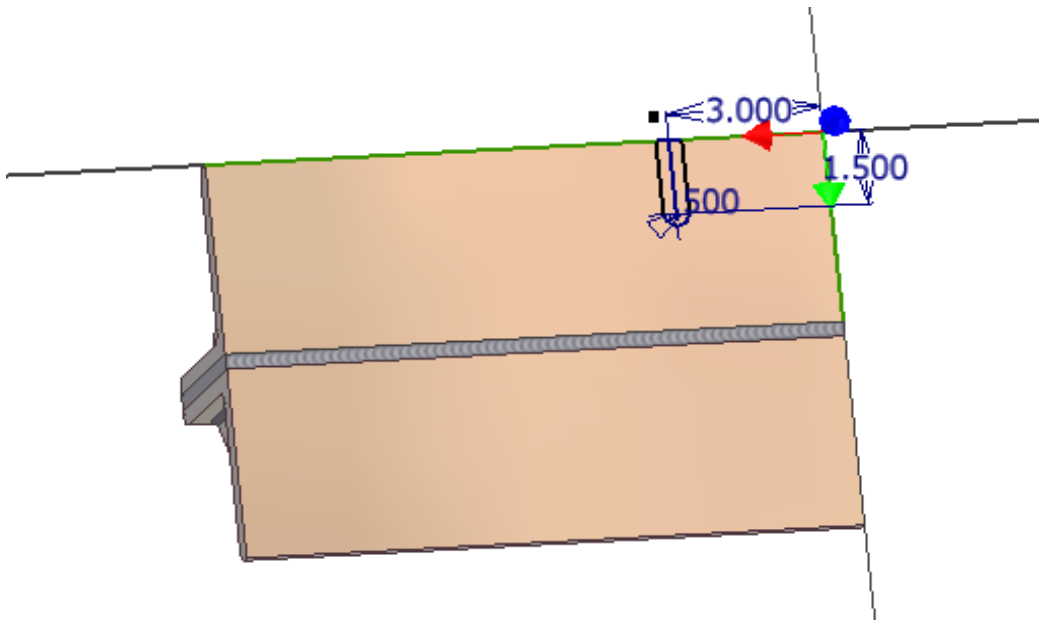

Figure Step 4A
Step 4 Rotate the model to look at the bottom. Start a new sketch and draw and dimension the shape shown on the figures below. (Figure Step 4A and 4B)